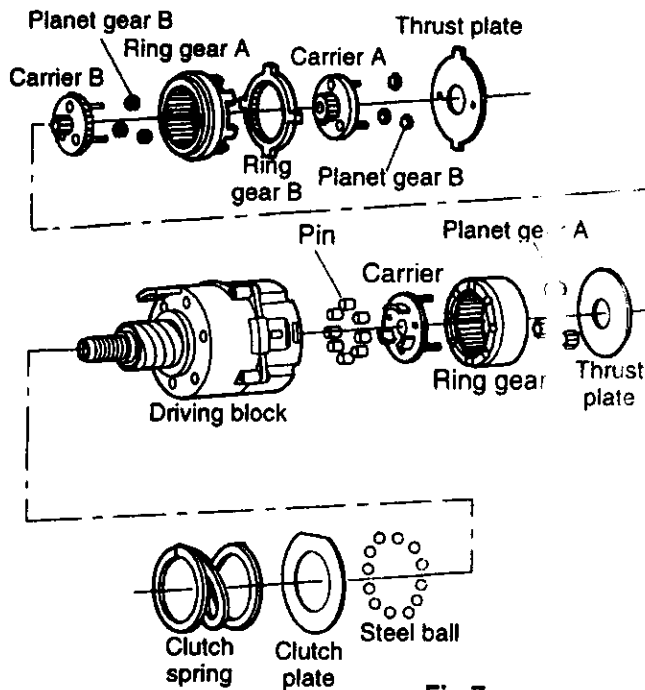

Fig.7
2. The internal parts of gear box block can be removed one after another.(See Fig. 7)
5. Assemble the other parts in reverse order as shown in the Fig. 7.